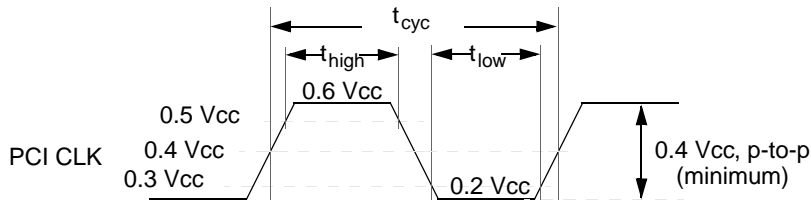

Figure 9. PCI CLK Waveform
2. Rise and fall times are specified in terms of the edge rate measured in V/ns. This slew rate must be met across the minimum peak-to-peak portion of the clock waveform as shown in Figure 9.